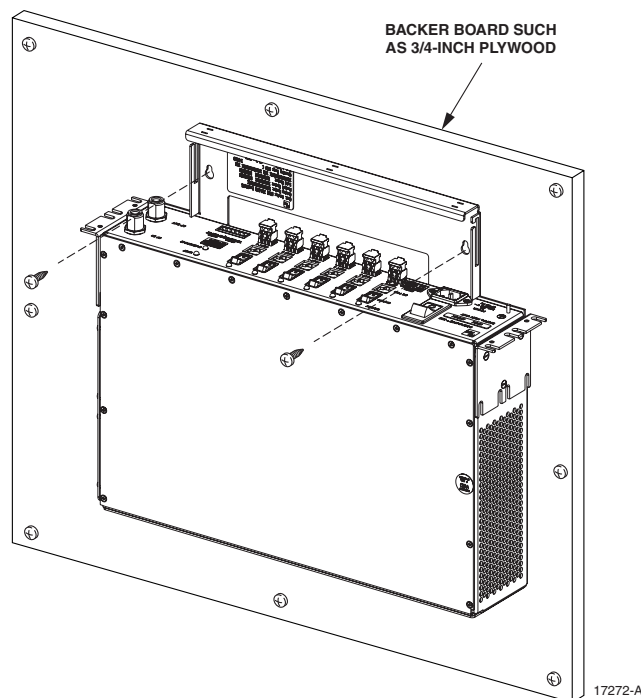

Figure 15. DHU Wall-Mount Installation
2. Position the DHU on the mounting surface in the specified location (per the system design) with the front panel facing up as shown in Figure 15.